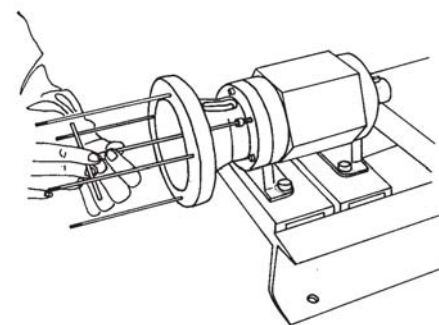
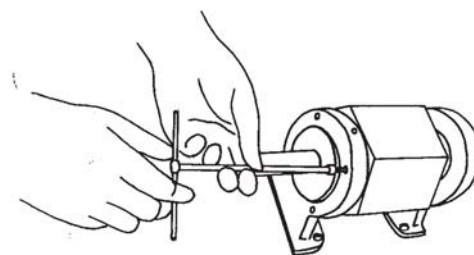

Fig.7
Fig.8
After having performed the operations described under points 1-2-3-4-5-6-7-8-9-10 you have to remove the intermediate adaptor (pos. 4) from the support (pos. 51) by using an extended hexagonal wrench and introducing it into the relative holes, see fig. 7.
- 32) Before the introduction of the rotor into its rear support you have to position the compensation spring (pos. 45) between the seeger and the bearing. Then assemble the support group on the base (fig. 8 - 9 -10) and at last mount the intermediate adaptor, fig. 7.
- 33) Fix the two halves of the elastic joint: the first one on the pump and the second one on the motor. Firmly tighten the two parts with screws (pos. 3 - 40) and use adhesive tape on the threads.